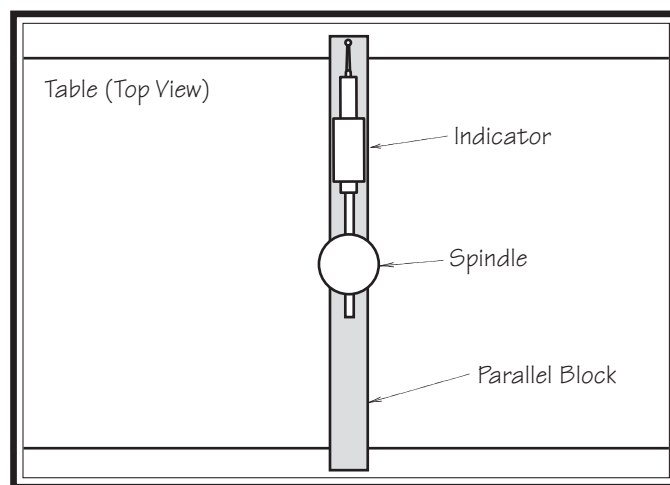

Figure 30. Parallel block positioned for the Y-axis measurement (top view).
9. Place the parallel block directly under the spindle and across the width of the table, as illustrated in **Figure 30**.
10. Rotate the spindle so that the indicator point rests on the parallel bar, as illustrated in **Figure 30**, then zero the dial.